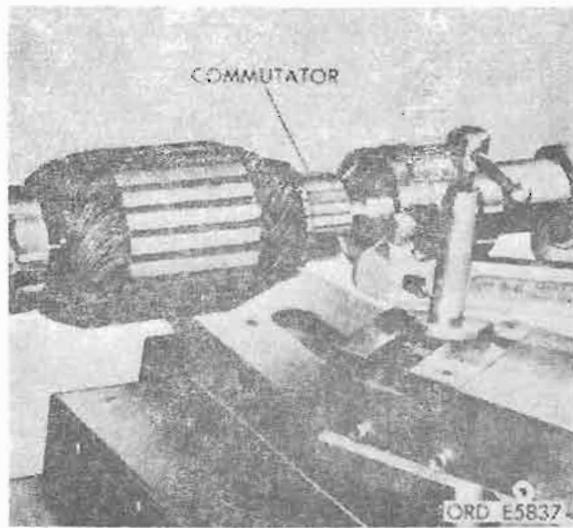

Figure 7-18. Turning down commutator.
(8) Turn commutator down on a lathe to remove burned areas of roughness, or if out-of-round more than 0.003 inch. Take light cuts with rounded tip tool mounted approximately 1/32 inch below centerline of shaft. Chuck both ends of shaft in lathe. See figure 7-18. If finished diameter of commutator is less than 1.450 inches, discard armature.